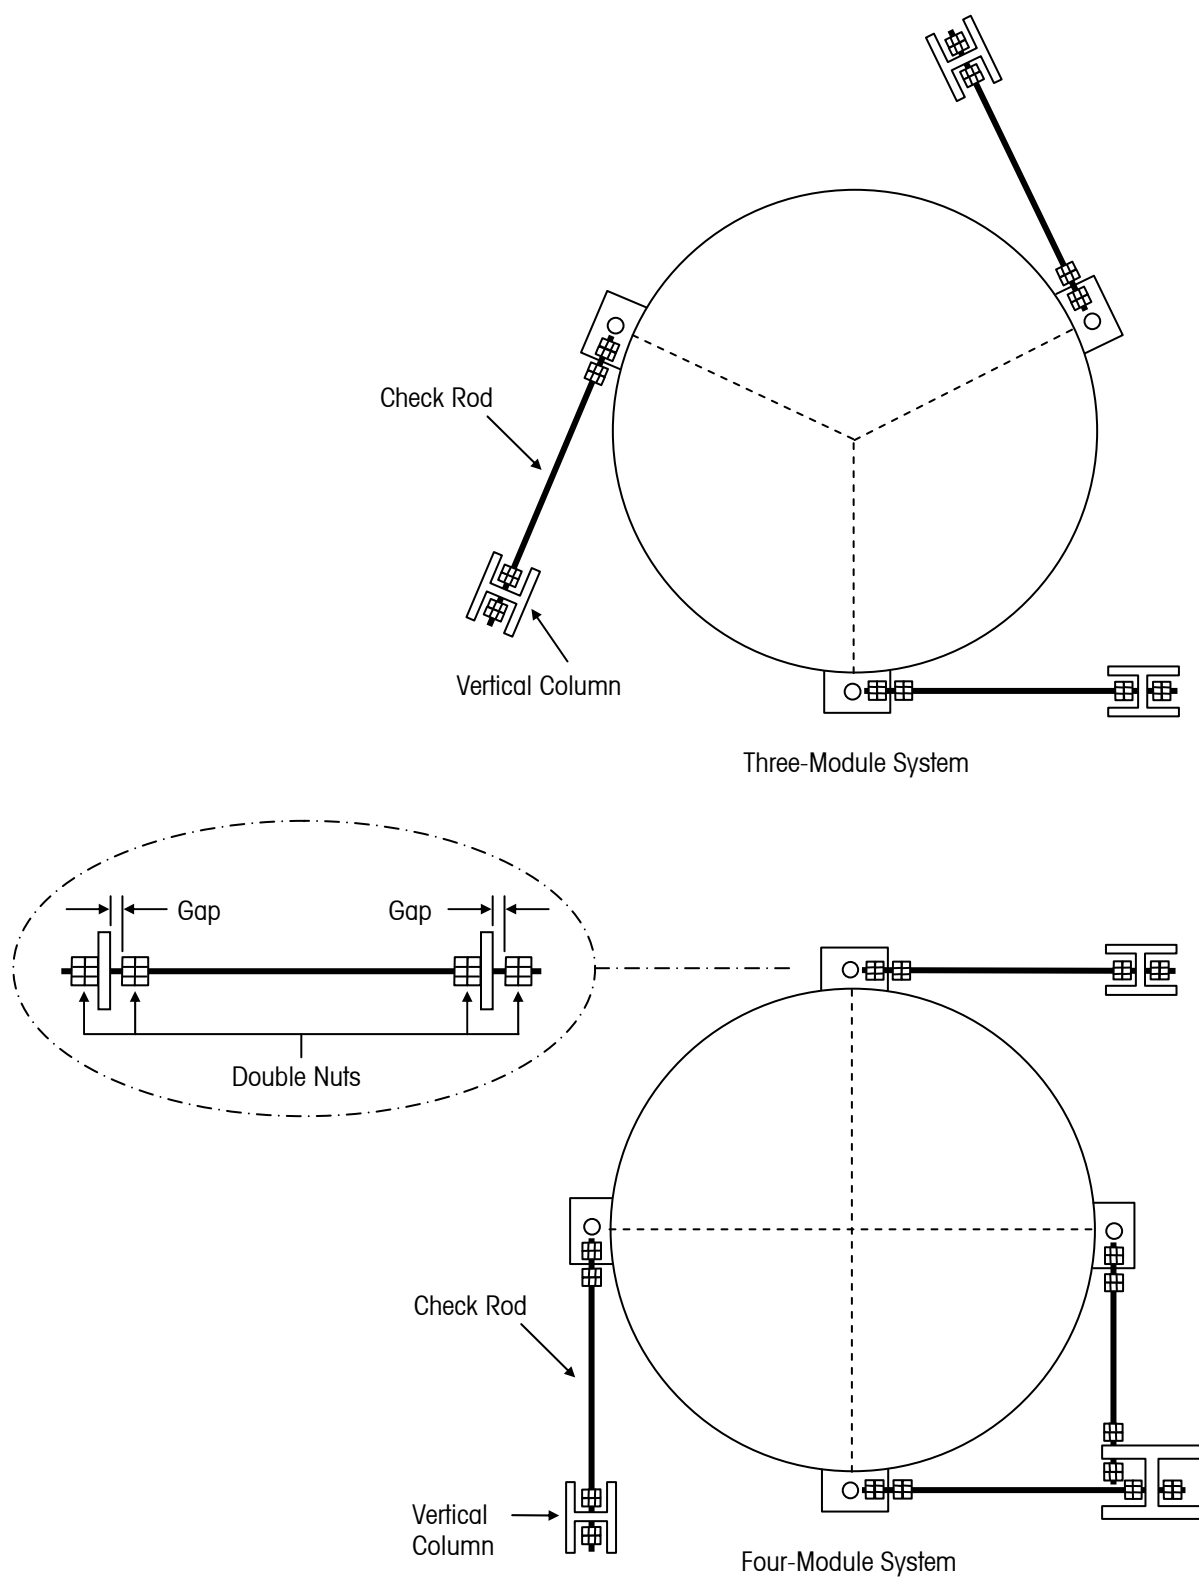
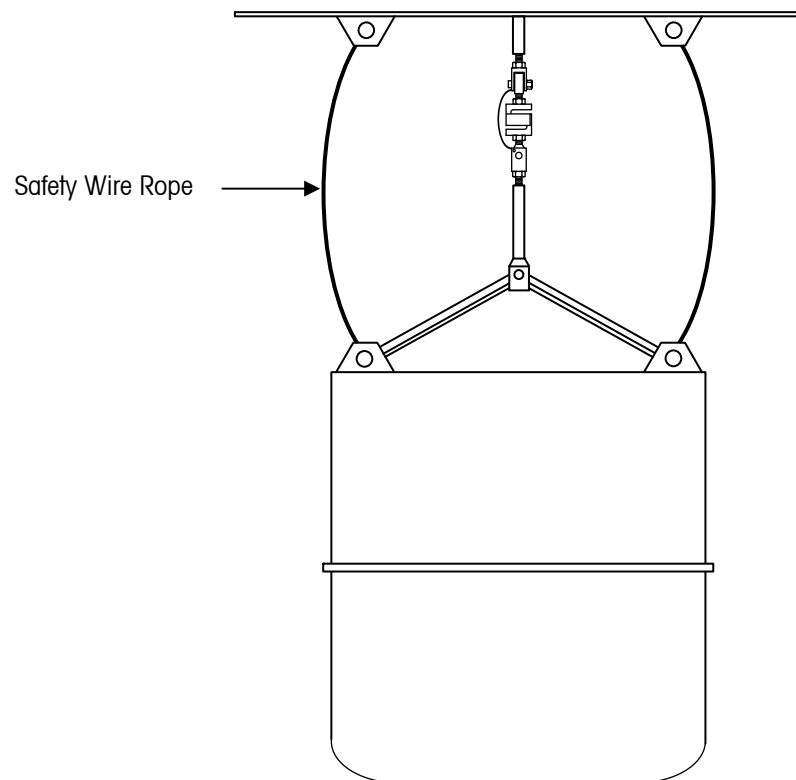

Figure 7-5: Plan View of Check Rods for Systems with Three and Four Weigh Modules
Figure 7-7: Sample Tension Weigh Module Installation
7. If the suspended tank is subject to horizontal movement, install check rods to limit horizontal movement. Figures 7-5 and 7-6 show typical check rod arrangements. Figures 7-7, 7-8, and 7-9 show typical tension weigh module installations.